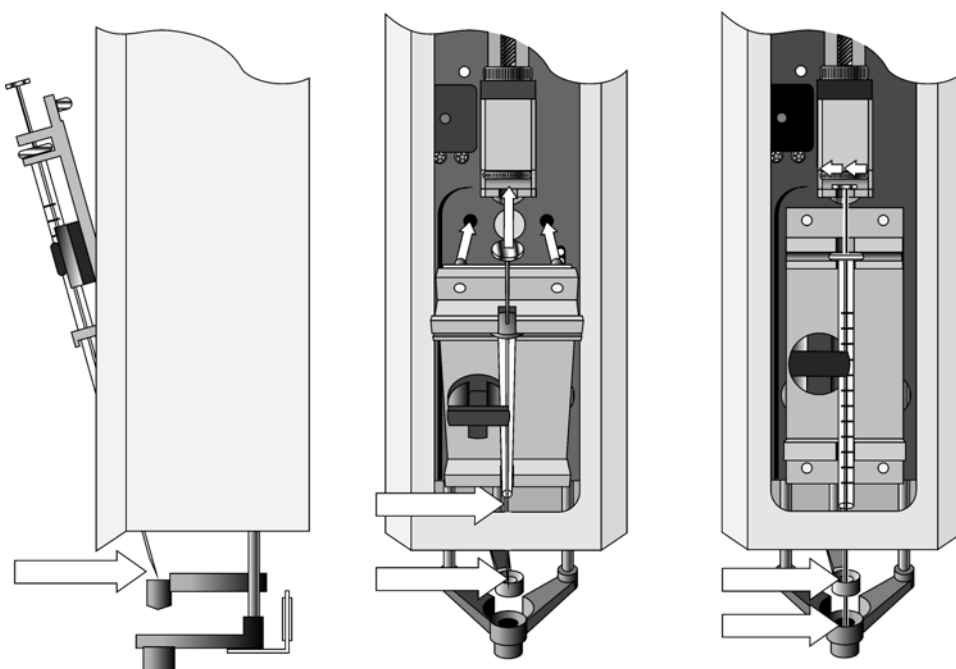

Figure 24. Installing and Removing a Syringe for Liquid Injections
- 5 Move the syringe, installed in the syringe adapter, partially into the Injection Unit. Guide the needle first into the upper needle guide and then into the lower needle guide (see Figure 24)